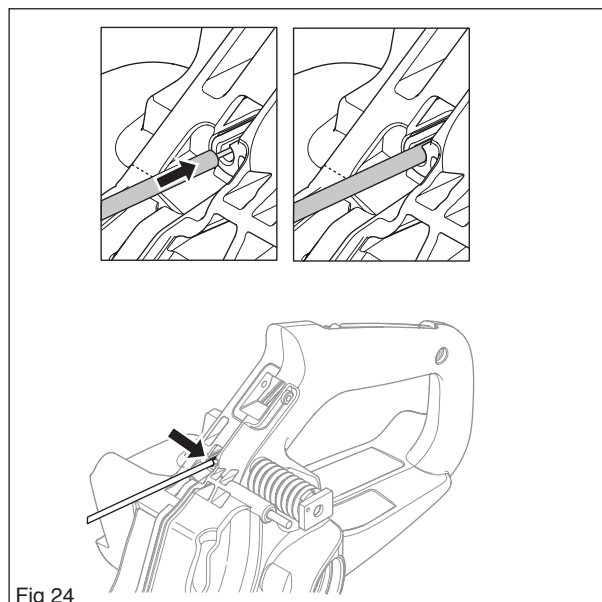

Fig 24
Fit the throttle control pin (E) with the help of a punch. (see figure 24)